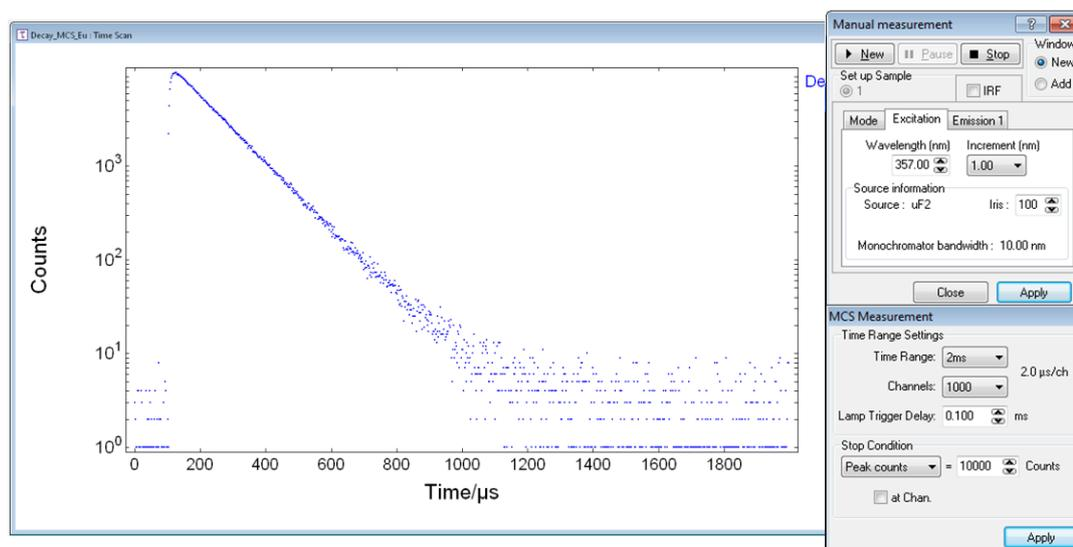

Figure 6-5: Dialogue box for a manual time-resolved measurement by MCS
- 11-2 Open the option for manual lifetime measurements ( > **Manual**). Two dialogue boxes will appear on the right side of the Fluoracle main panel: the upper one provides an extract of Signal Rate options and will be required to start and stop measurements and the lower one is specific for the lifetime settings in multi-channel scaling mode (refer to Figure 6-5).